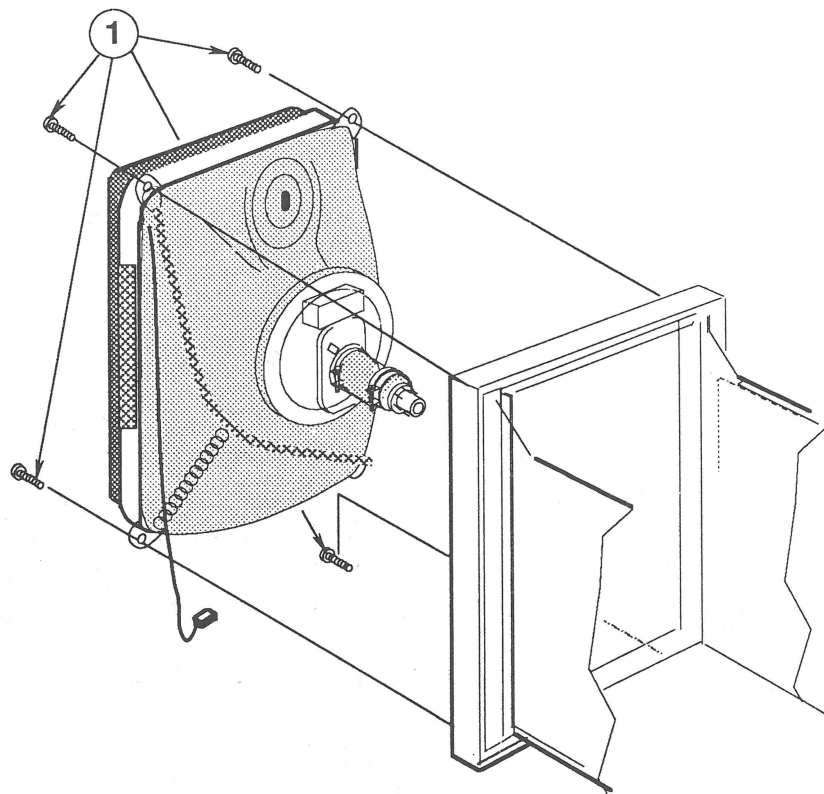

FIGURE 53
10. Remove four mounting screws (Figure 53, #1) from the CRT.
2. Replace but do not tighten the four mounting screws (Figure 53, #1). Push up on the CRT so that the top of the CRT is flush against the metal stop at the top of the chassis, and tighten the four screws.